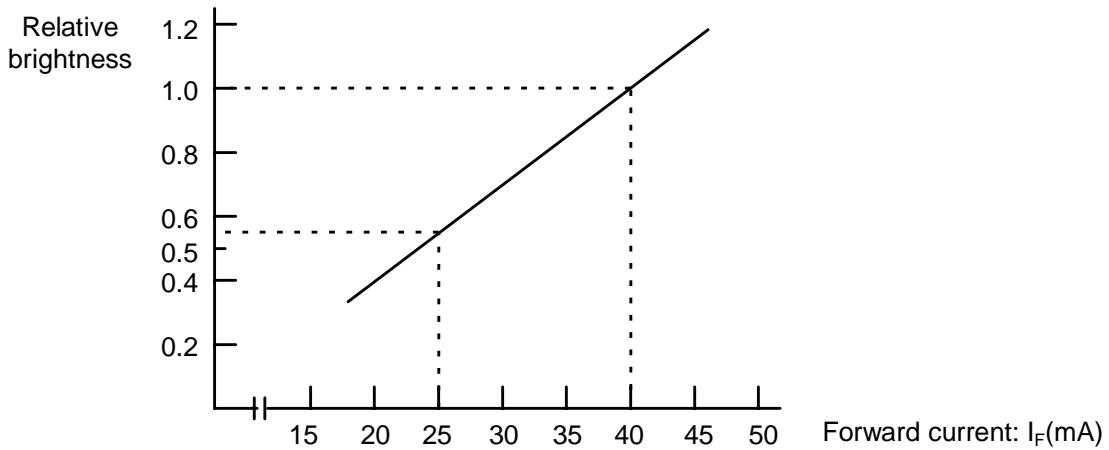

Figure 12 Forward Current-Brightness Characteristics ($T_a=25^\circ\text{C}$)
For this resistance value, the forward current becomes lower than 25 mA at 25°C. The surface brightness of the LED backlight varies with the forward current. See Figure 12. Compared with 1.8 (4) brightness ($I_F=40$ mA), the brightness is about 40%.